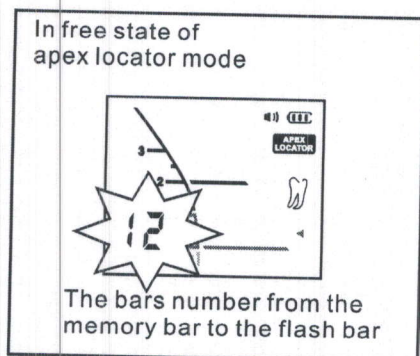

Fig.21
**The bars number from the memory bar to the flash bar (in free state). (Fig.21)**